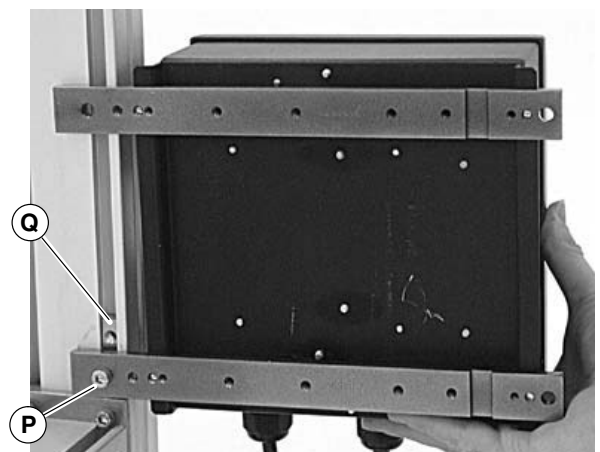

Figure 20
3. Temporarily tighten screw (Figure 20, item P). Install second T-bar (Figure 20, item Q) into T-slot.